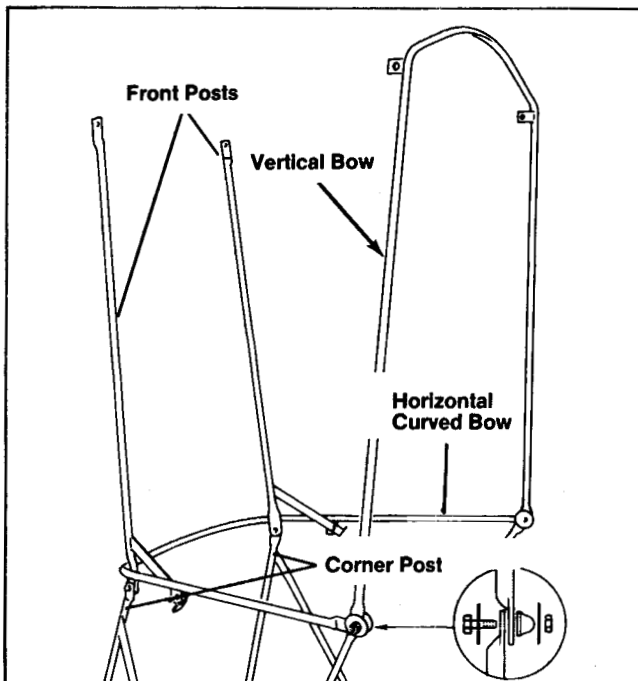

Figure 138
8. Mount each side of the vertical bow to the attaching brackets and rear of the horizontal curved bow with a 1/4-20 X 3/4" capscrew, flat washer and locknut. See Figure 138 and inset. When properly assembled, the capscrew head should be inside the cab and the vertical bow should be positioned between the attaching bracket and the horizontal curved bow. Tighten the capscrews so that the vertical bow is perpendicular to the plane of the horizontal bow.